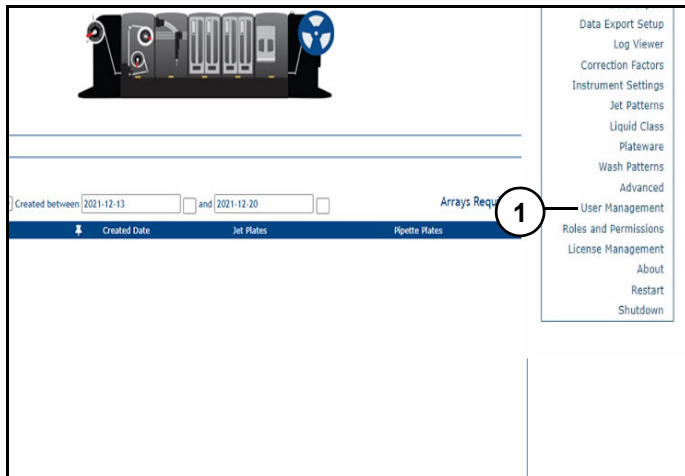

Figure 35
User Management (1) (Figure 35): Opens user management page.